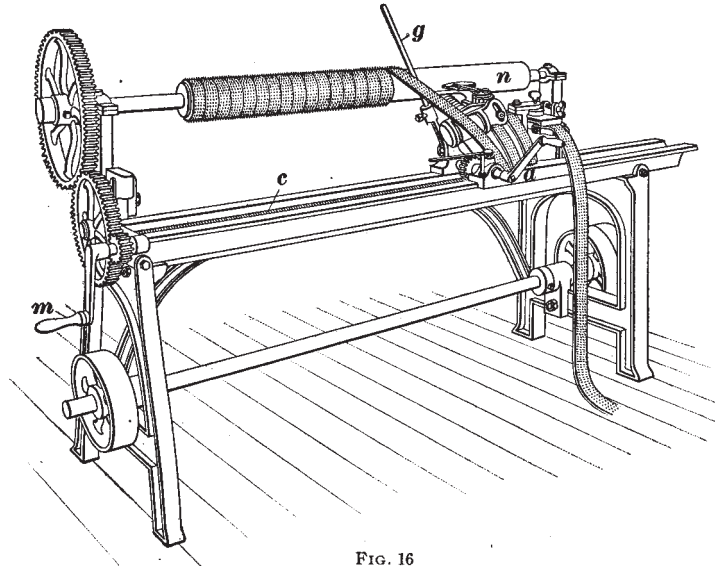
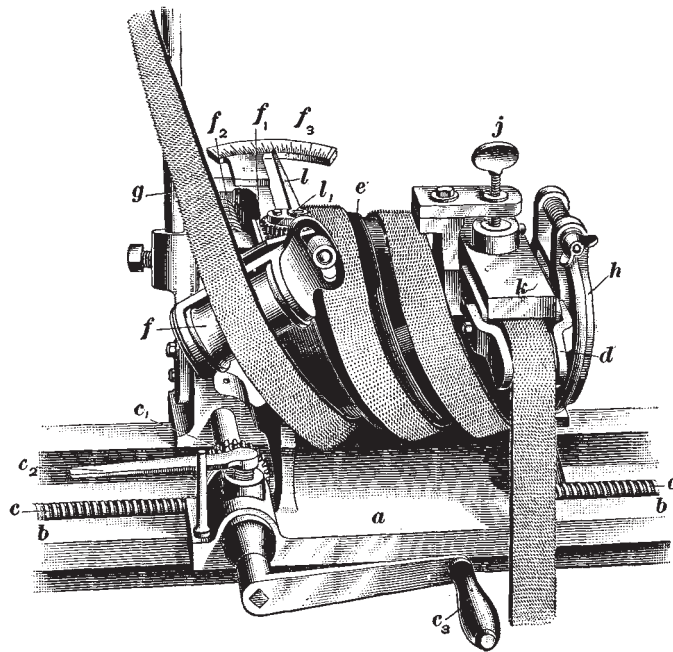

FIG. 16
FIG. 17
37. Fig. 16 shows a fillet winding frame similar to the one described except that it is equipped with a patent drum for regulating the tension of the fillet as it is placed on the cylinder. An enlarged view of it is shown in Fig. 17, where it will be seen that it consists of a carriage *a* that slides on a bed *b*. Sufficient motion is imparted to the carriage by means of a screw *c* to guide the spirals of fillet close up to each other. The fillet when being wound is usually placed in a basket, from which the end is taken and passed through
The frame shown in Fig. 16 is also used for truing wooden rolls, in which case the fillet winding device is removed and a turning lathe substituted. In this case the frame is driven by a belt, but when winding fillet, motion is imparted to the